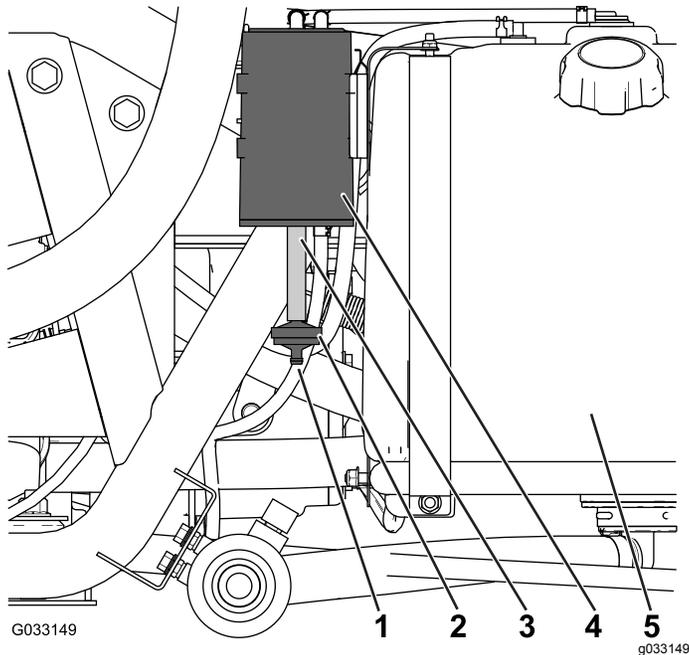

Figure 45
Check the opening at the bottom of the air filter for the carbon canister to ensure that it is clean and free of debris and obstructions (Figure 45).
1. Remove the barbed fitting of the carbon-canister filter from the hose at the bottom of the carbon canister, and remove the filter (Figure 45).